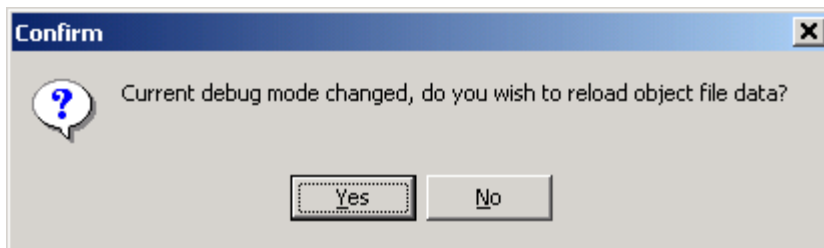

Figure 8-6: Confirm Window
10. Click Yes in Confirm window. (**Figure 8-6**)